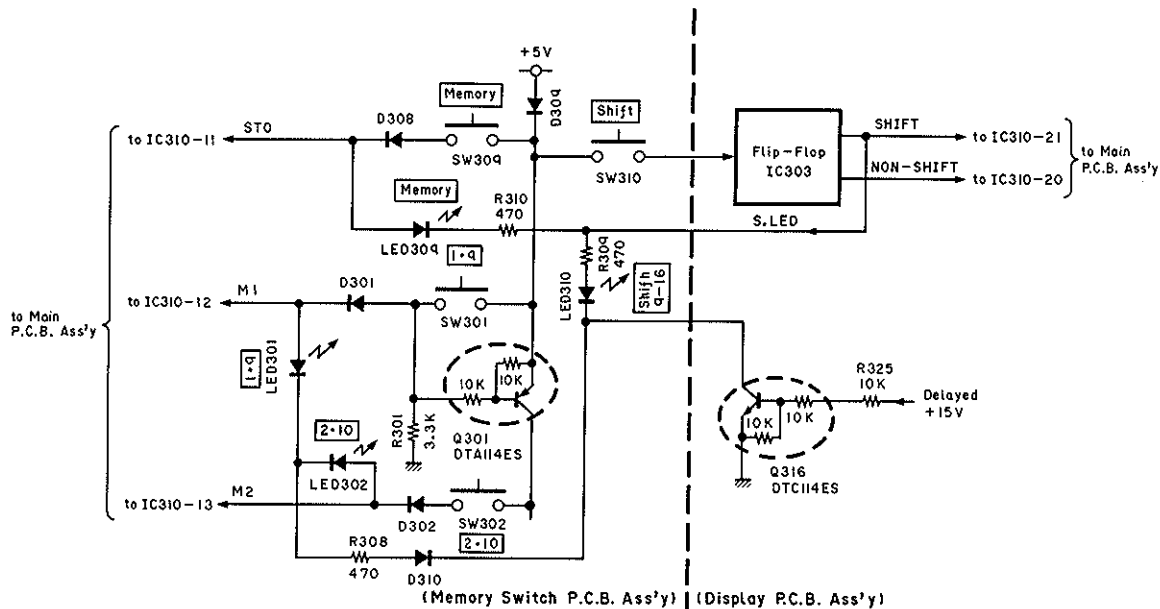

Fig. 11
### (1) Preset station memory (refer to Fig. 11)